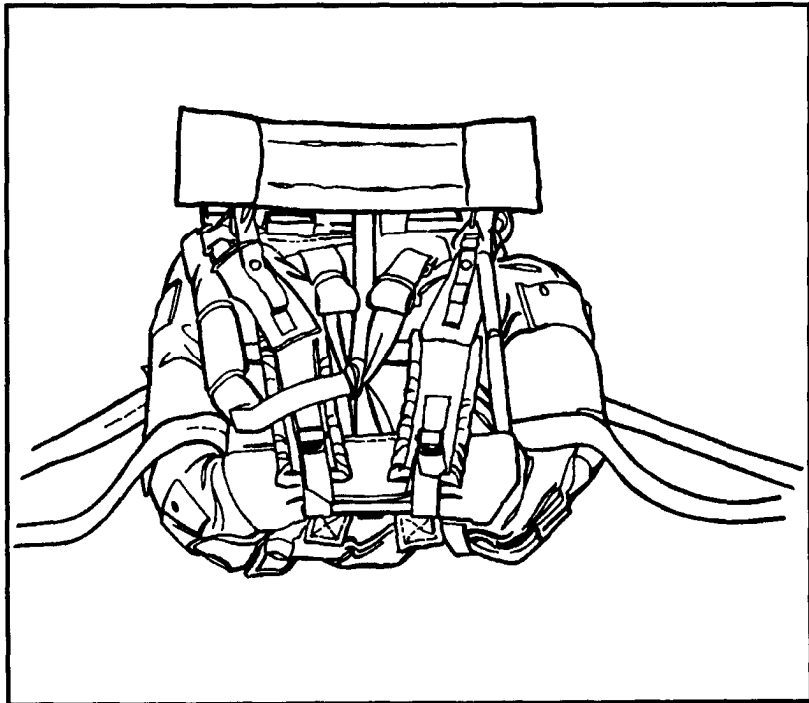

Figure 12-10. Harness routed.
c. Repeat the process for the other strap. Turn the harness over so that the adjustable D-ring attaching straps are on the bottom. Place the ALICE pack on top of the harness so that the middle outer cargo pocket is placed between the release handle cross strap and the adjustable cross strap. Ensure the top of the pack is facing the equipment retainer straps. Route the equipment retainer straps underneath the top of the frame, cross them on the back of the pack to form an X, then route them underneath the frame and the backrest of the pack (Figure 12-10).